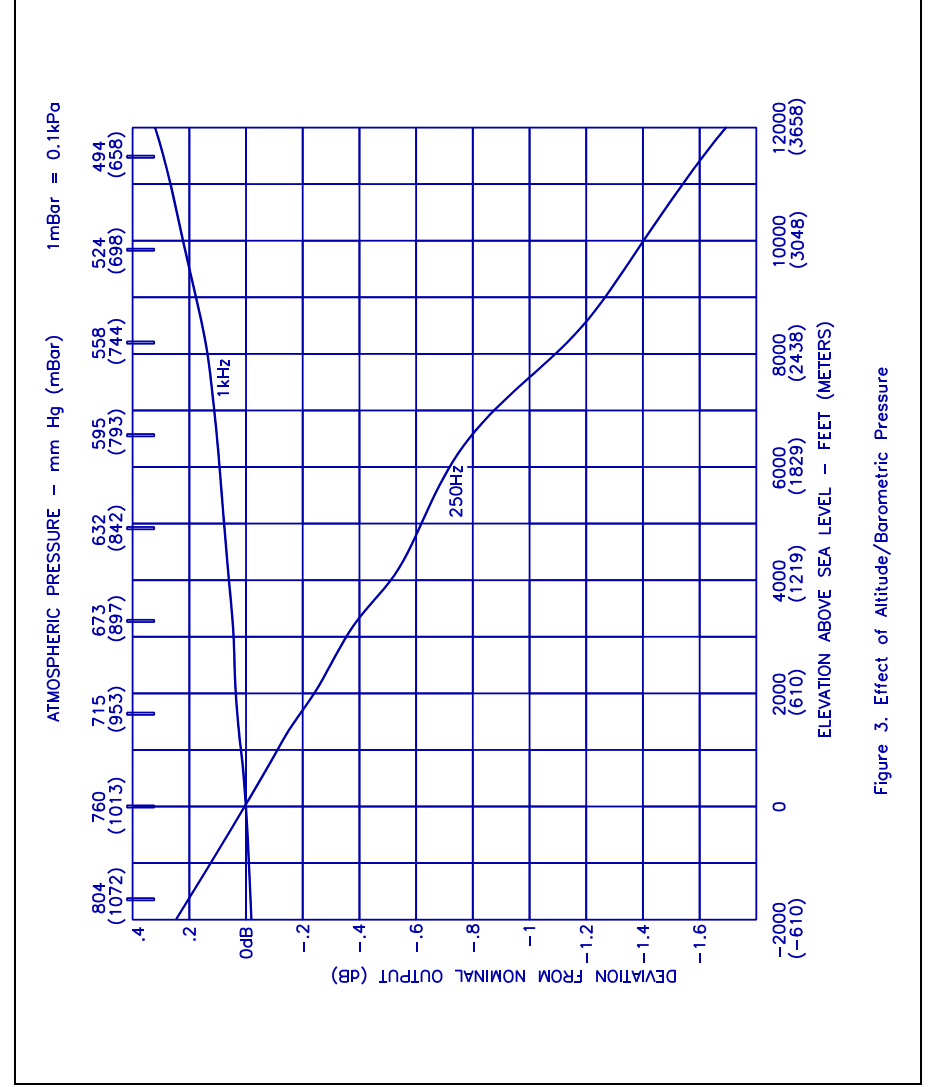

Figure 3. Effect of Altitude/Barometric Pressure
5. Verify the sound level meter's accuracy by comparing its reading with the calibrator's output. Following the manufacturer's instructions, adjust the sound level meter for a correct reading. If altitude or microphone corrections are necessary, refer to Figures 3 and 4 and apply the appropriate factor.
Older calibrators, which have a straight conical profile to the coupler cone, require altitude compensation. Figure 3 shows correction factors for different altitudes and barometric pressures.
Example 1. You are calibrating a sound level meter with a 1/2" pressure response microphone which requires no correction. You are using an older design QC-20 at a barometric pressure of 530mm Hg, corresponding to an elevation of approximately 9,500 feet. With the calibrator set at 114dB and 1000 Hz, the meter reading, from Figure 3, should be .2dB above the calibrator setting, or 114.2dB.
Set the calibrator at 1000 Hz and 94dB. The microphone correction from the sound level meter manual states that the meter will read -0.2, or 93.8dB. Also, from Figure 3 the altitude correction is +.1dB. Therefore set the meter to read 93.9dB.